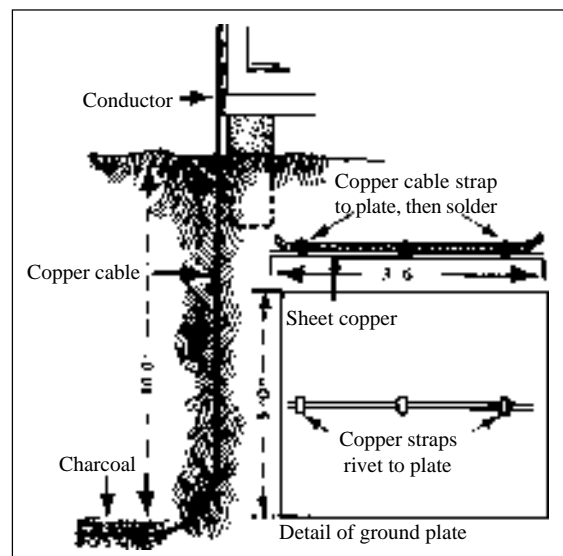

Figure 6
3. Clamp copper conducting cable to a copper plate. The plate should be one-eighth inch copper sheeting at least 11 square feet in size. The plate should be buried about 10 feet below the surface, laid on five inches of charcoal and covered by five inches of charcoal before it is covered with soil. The conductor cable should be attached to the copper plate by copper straps riveted and soldered to the plate (Figure 6).